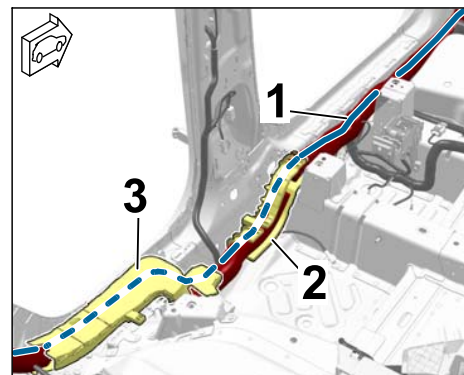

Figure 31
3.2.2 Door sill area, left (\Rightarrow Figure 31)